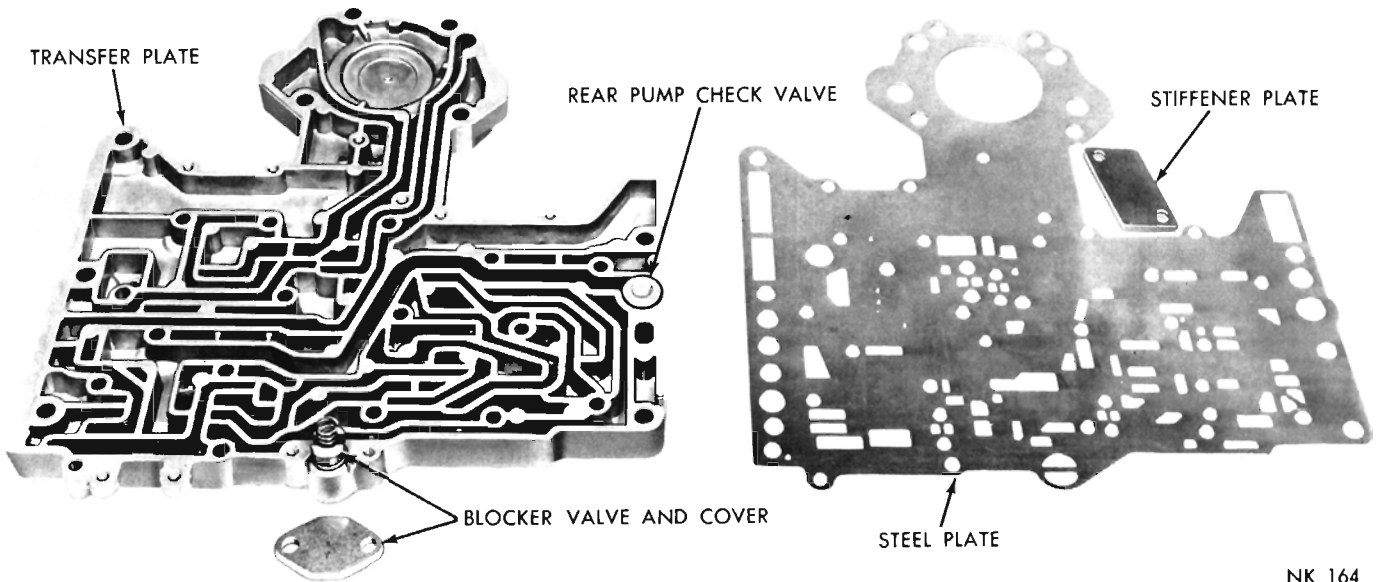

Fig. 72—Transfer and Steel Separator Plate Assembly (Disassembled)
(1) Place the rear pump check valve and spring in the transfer plate (Fig. 72). Position the steel plate on
(2) Turn the transfer plate over and install the reverse blocker valve spring and valve (Fig. 72). Rotate the valve until it seats through the steel plate. Hold the valve down and install the blocker valve cover plate. Tighten the two remaining screws to 28 inch-pounds torque.